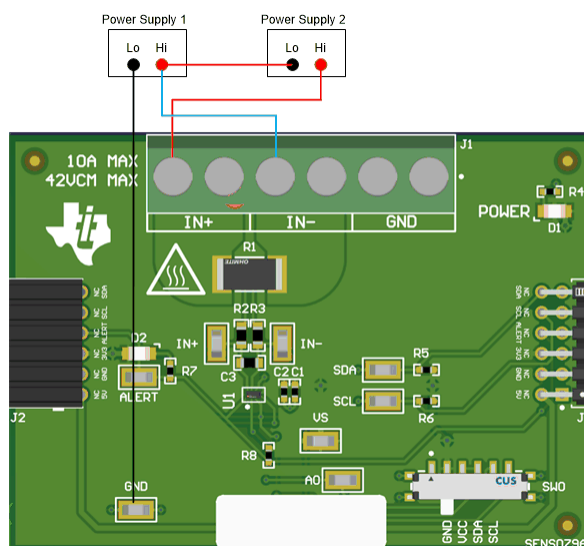

Figure 4-14. IN+ and IN– Wiring Without a Shunt Resistor
1. Connect a differential voltage across the IN+ and IN– terminals (see Figure 4-14). Note that INA234EVM or INA236EVM is used for illustration. In screw terminal J1, IN+ and IN– are swapped for the INA232EVM (see Figure 4-15).